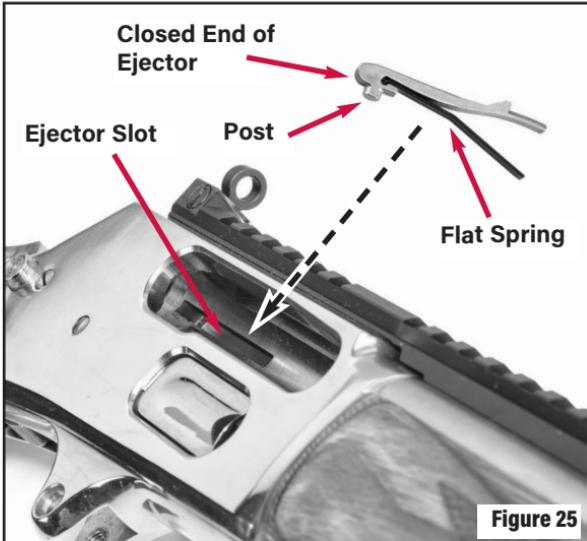

Figure 25
Make sure that the ejector is oriented correctly so that: (1) the post rests in the hole at the rear end of the ejector slot; and (2) the flat spring rests in the slot and points toward the muzzle. See Figure 25.